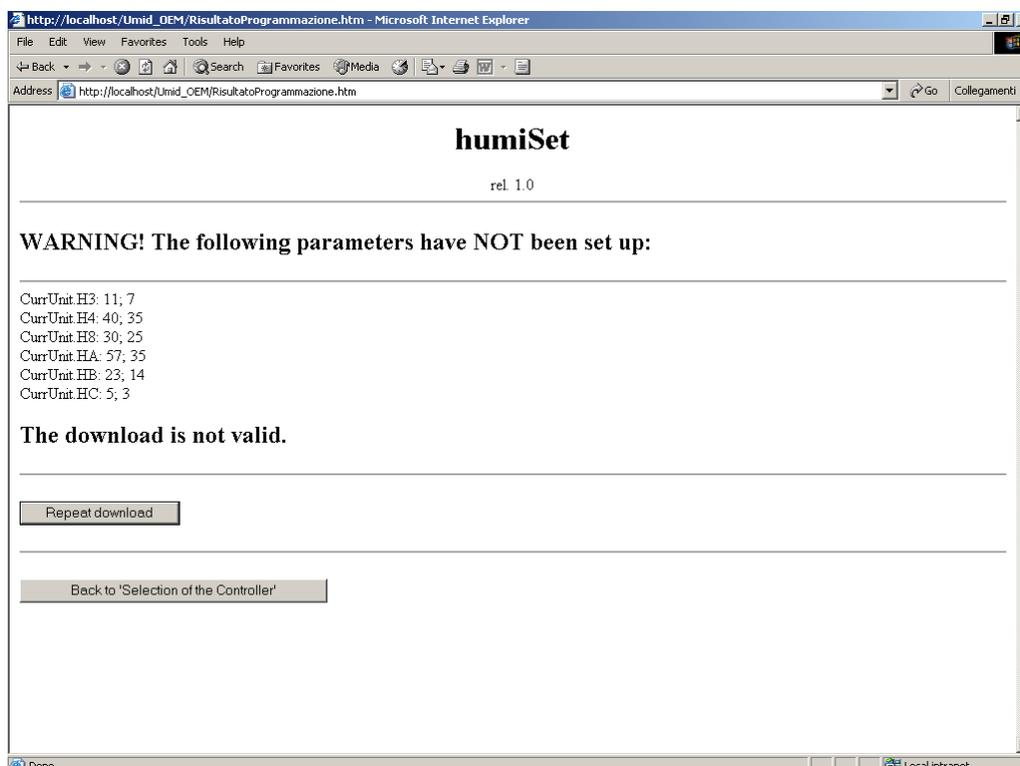

Figure 40
- In case of trouble during the writing of certain parameters, the page below will be displayed (Figure 40):
**Note:** "Boardcontroller" controllers with firmware release 14 or earlier are not programmable while they are showing the firmware release (at power-on, flashes of yellow and red led). Humicontrol controllers are not programmable during the first 5 seconds from power-on (until "---" is shown). If Figure 40, appears, retry only after these events.